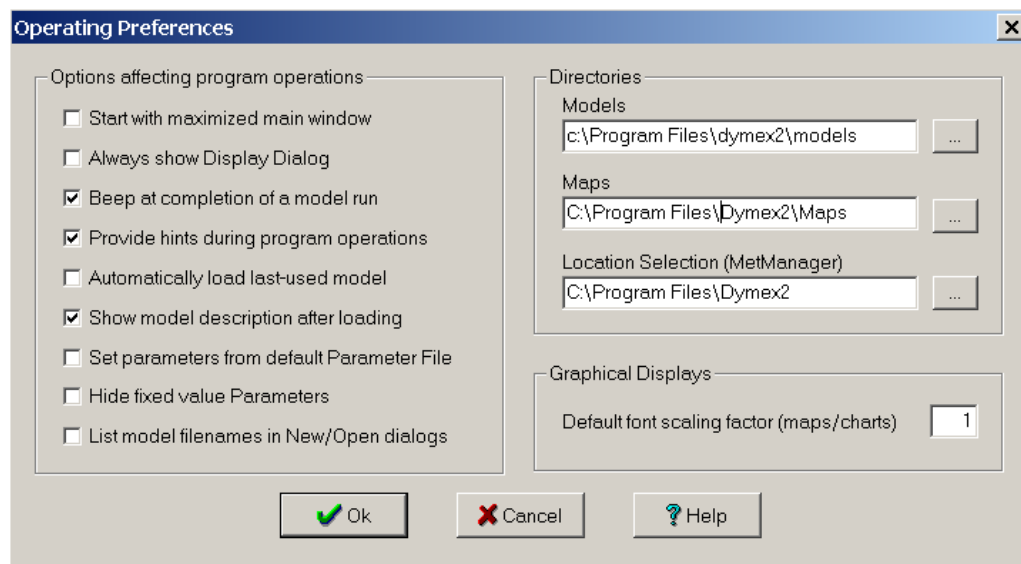

Figure 1-11 The “Operating Preferences” dialog
3. In the “**Operating Preferences**” selection box, check that the options are set to the defaults shown in Figure 1-11